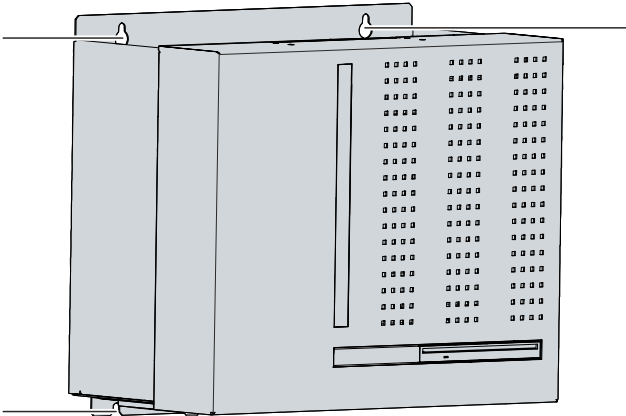

Fig. 30: Positions of the fastening screws
2. Lift the PC far enough so that the fastening screws slip into the keyholes (see fig. 30).